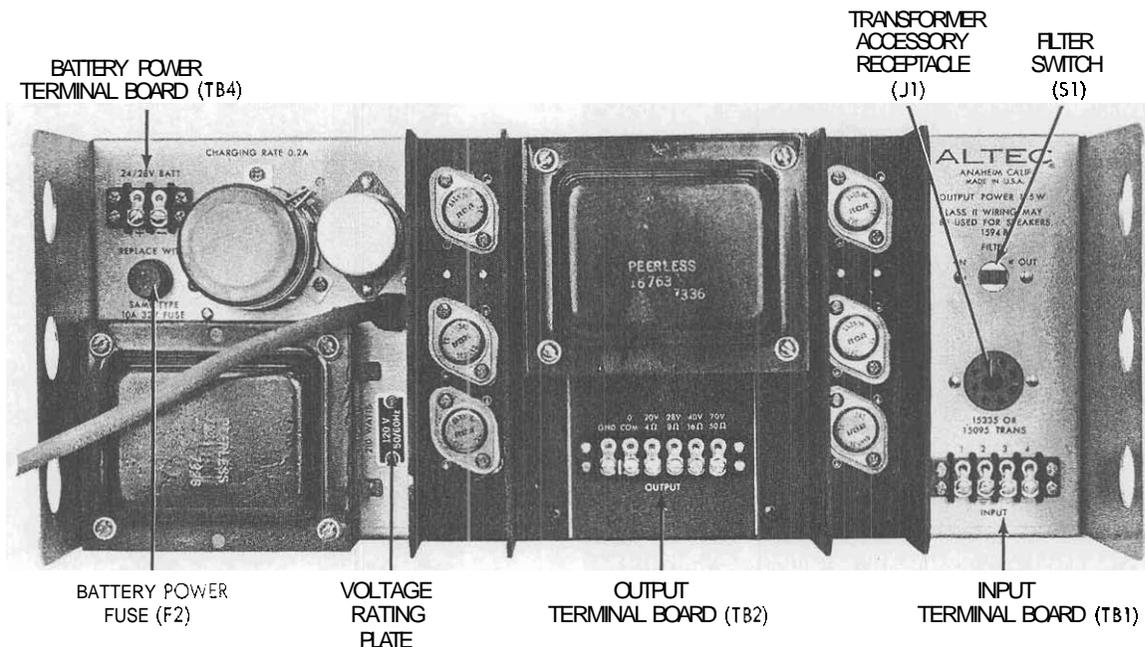

Figure 6. Rear View of 15948 Power Amplifier
1 to 2 and 3 to 4 on TB3). The power input nameplate, adjacent to the power cord on the chassis, is mounted to show the appropriate side specifying the connections (see Figure 6). Verify that line voltage is in accordance with the voltage rating before connecting the 1594B to line power.
- Step 4. Remove voltage-rating plate (see Figure 6) from chassis, reverse and reinstall to show 240V ac rating.
If desired, the 1594B may be connected to an external 24/28 volt battery with minus (-) as ground. Terminals for the dc power connections are on TB4 (see Figures 6 and 12). If ac power fails, transfer to dc power is instantaneous, automatic and silent. A built-in charging circuit supplies a 100 mA trickle current to maintain battery charge during ac operation. The battery power supply is not operated by the primary power ON-OFF switch on the front panel, If switching of battery power is desired, an external relay or switch should be provided by the user.
Input connections may be either direct-coupled or transformer-isolated at the INPUT terminal board (see Figure 6). Direct coupling is accomplished by connecting the input leads (shielded conductor recommended) to terminals 1 and 2. Terminal 2 is ground. Table I lists the terminals and applications of the INPUT terminal board.
For transformer-isolated input, a plug-in 15095A or 15335A Line Transformer must be plugged into receptacle J1 (see Figure 6). The input leads are connected to terminals 3 and 4 of the INPUT terminal board.
Output transformer taps provide connections for 4-ohm, 8-ohm and 16-ohm speakers, plus a 70.7-volt speaker distribution system (see Figure 6). For 25-volt speaker distribution systems, use the 8-ohm tap. Connect to the terminal of desired impedance and terminal 5 (common). Terminal functions and designations are listed in Table II. If stray electrostatic radiation causes interference, strap terminal 5 (common) to terminal 6 (ground).
A screwdriver-operated FILTER IN-OUT switch is located on the rear of the chassis (see Figure 6). The switch is placed in the OUT position when the 1594B is shipped from the factory.
The ac primary power fuse is mounted on the front panel (see cover photo). The battery power fuse is located on the rear of the chassis (see Figure 6). If fuse replacement is required, determine and correct any cause of failure before replacing fuse. Install an identical fuse (see PARTS LIST) by unscrewing fuse holder, replacing fuse and resealing fuse holder.